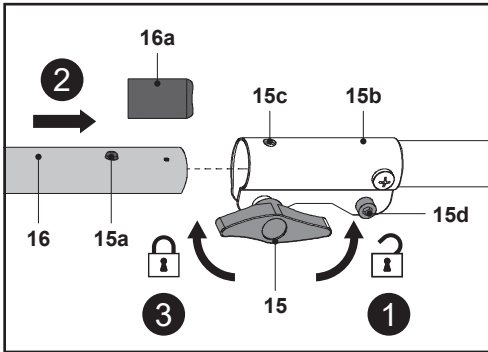

Fig. 1
1. Loosen the lock knob (15) counter-clockwise (Fig. 1, step 1).
2. Align the lower pole (16) with the locking sleeve (15b) and insert it (Fig. 1, step 2). Make sure the pin (15a) matches the bore (15c).
4. Secure the connections with the lock knob (15) (Fig. 1, step 3).